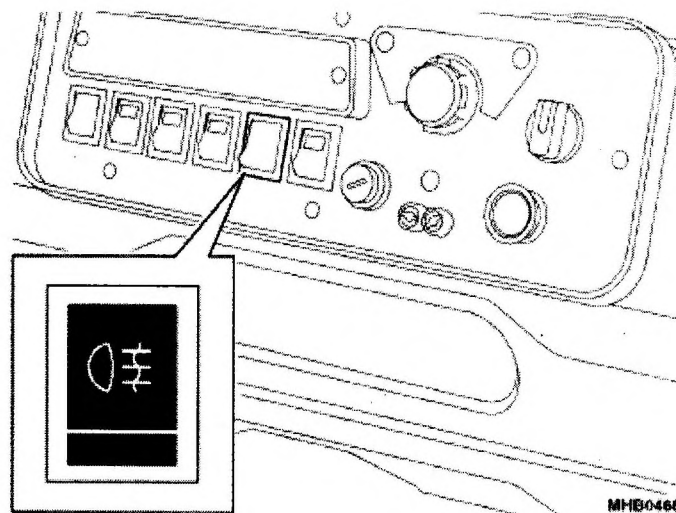

Fig 11 Rear fog guard light switch
- 16 The rear fog guard light switch (Fig 11) is located in the instrument console. This is a two-position, on/off rocker switch.